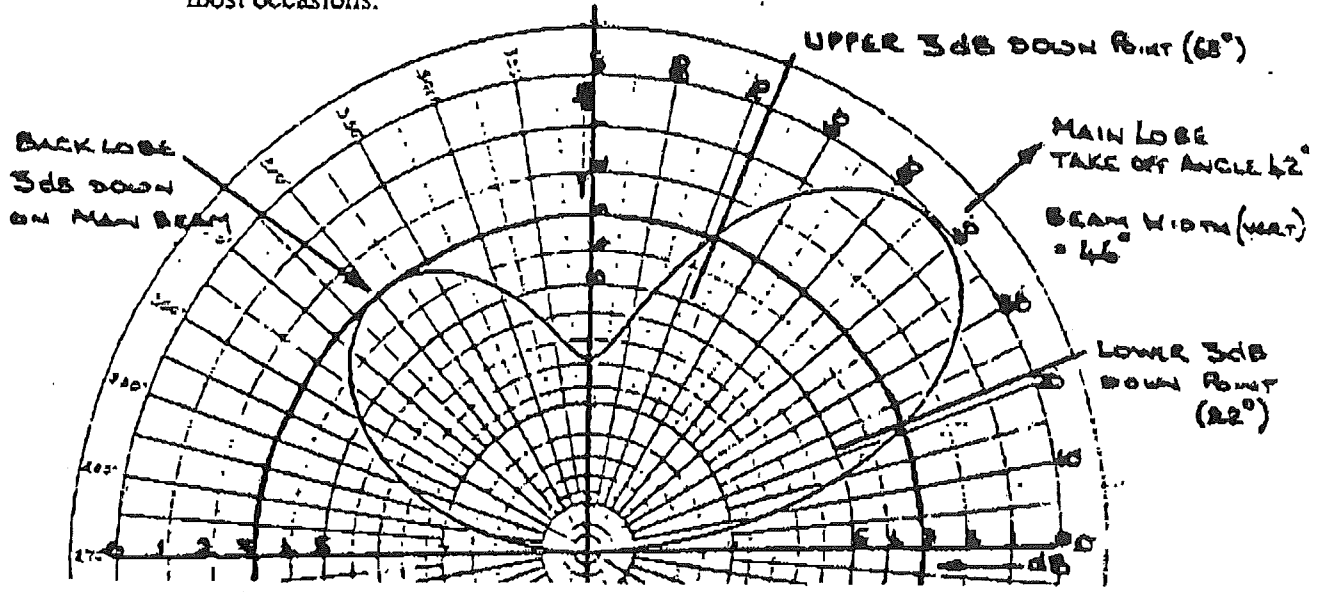

Figure 2-1. An Idealized Antenna Beam, Showing Half Power Beamwidth
- e. Vertical and Horizontal Radiation Pattern. For all antennas, best service is obtained when the direction to the distant station is within the beamwidth of the antenna. The beamwidth, sometimes known as the "half power beamwidth" is taken to be the twice the angle subtended from the boresight to the point on the beam where gain is 3 dB below the peak gain. See Figure 2-1. Because HF skywave antennas use the ionosphere as a "reflector", the required Take Off Angle (see Table 2-1) must be within the vertical half power beamwidth of the antenna configuration at the operating frequency. Similarly, the azimuth of the distant station must be within the horizontal half power beamwidth of the antenna configuration at the operating frequency. Net operation will usually require a broad or omnidirectional radiation pattern. However, LONGSHOT is primarily intended for point-to-point circuits over long range where narrow beam, high gain, directional antennas are most effective. Vertical and horizontal radiation patterns for LONGSHOT configurations are given in Section 3. CSA recommends that all long range configurations of LONGSHOT are aimed "on azimuth", i.e. directly at the distant station and not 10° to one side as has been the practice in the past. Better connectivity will result on most occasions.